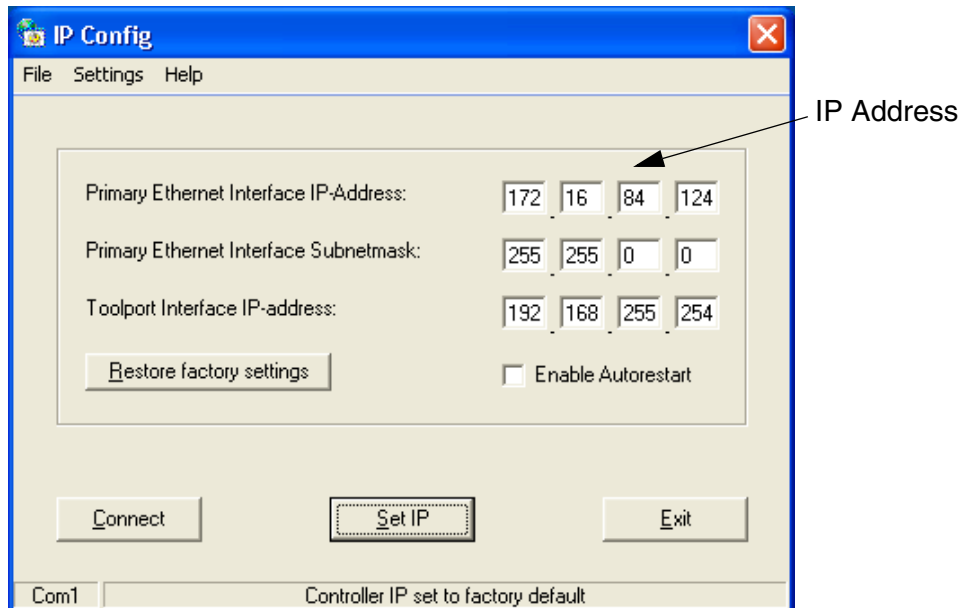

Figure 55. IP Config window for setting unique IP address.
6. Enter a unique IP address (obtainable from your Control Network Administrator). Example: IP address 172.16.84.124, see Figure 55.